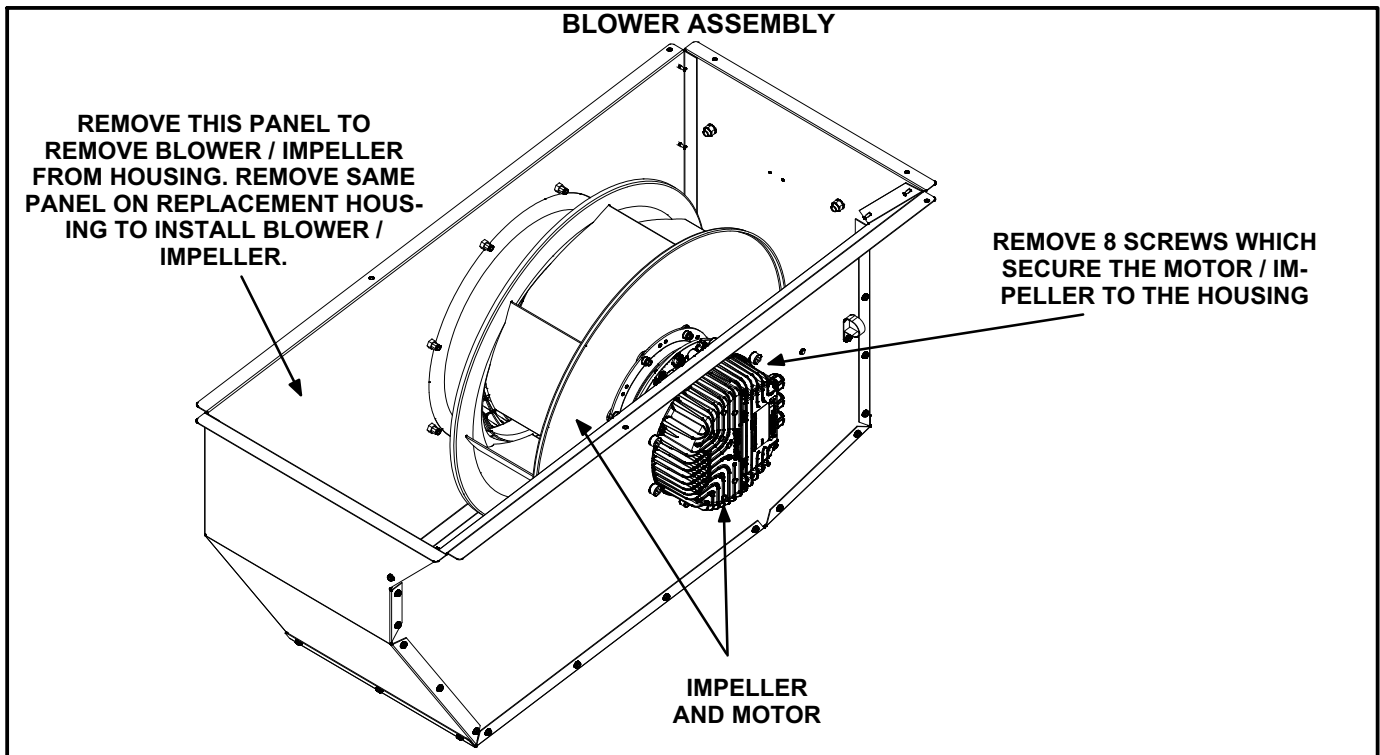

FIGURE 6
- 10- Turn the blower assembly upside down. See figure 6.
- 13- Remove the motor / impeller secured to the existing housing. See figures 6 and 7.
- 1- Remove one side of the replacement housing. See figures 6 and 7.